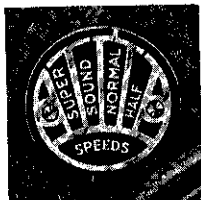

FIGURE 13
21. The Filmo 70-E speed adjustment dial is shown in Figure 13. Any one of four film speeds—half (8), normal (16), sound (24), and super (64)—may be selected. Turn the outer knurled ring until its index mark coincides with the index mark in the segment indicating the desired speed. Intermediate speeds may also be used, as the change in the setting of the governor is gradual. Keep this dial set for normal speed, returning it to that position after taking scenes at other speeds. See paragraph 20 for the uses of the various speeds.